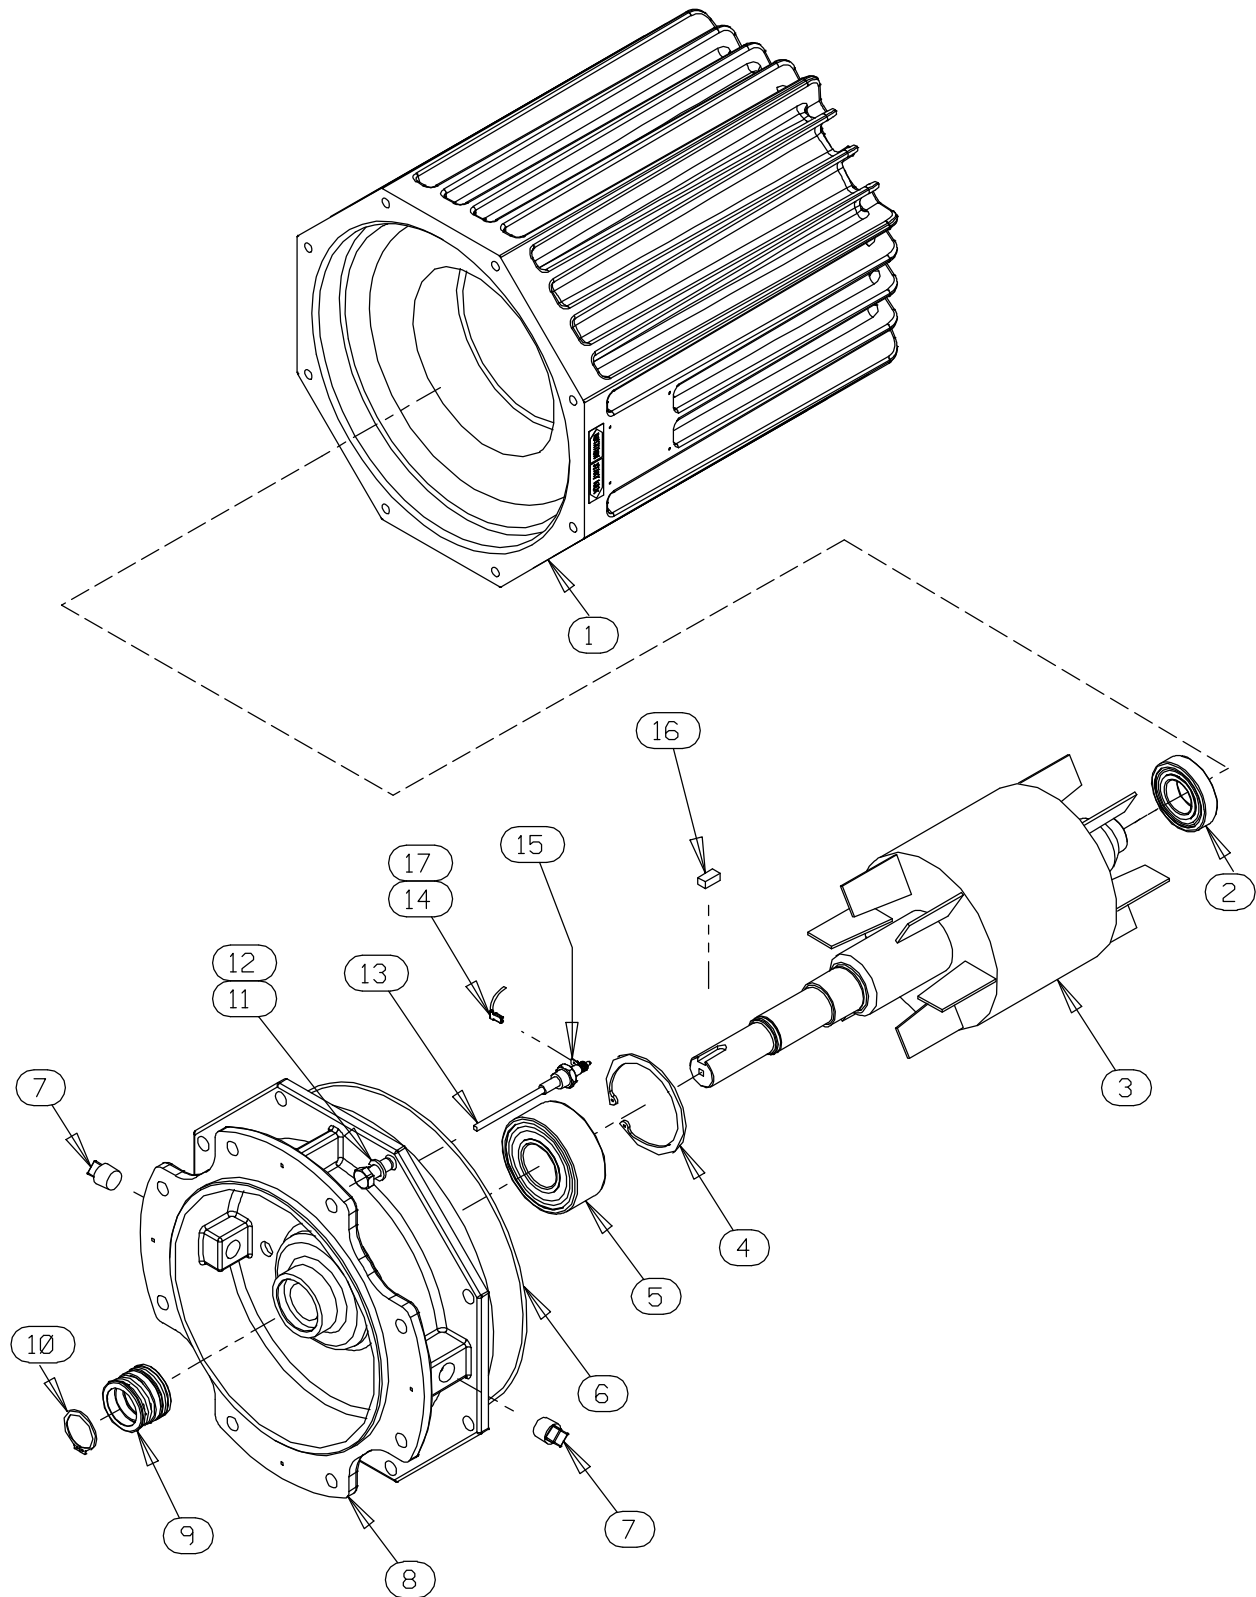

Figure E-2. Motor Assemblies
#### (Figure E-2)
To remove the impeller, use two thin-bladed screwdrivers positioned 180° apart to pry on the back of the impeller and “walk” the impeller off the shaft. Use increasingly larger screwdrivers (or wedges) as necessary. After the impeller comes free of the shaft, retain the impeller key (16, Figure E-2).
*An alternate method of removing the stationary element is to remove the screws (21) securing the seal plate (12) to the motor assembly (1). Pry the assembled seal plate and stationary element off the shoulder of the intermediate (8, Figure E-2). Remove the O-ring (19) and press the stationary element and seat out of the seal plate from the back side.*
(Figures E-2 and E-3)